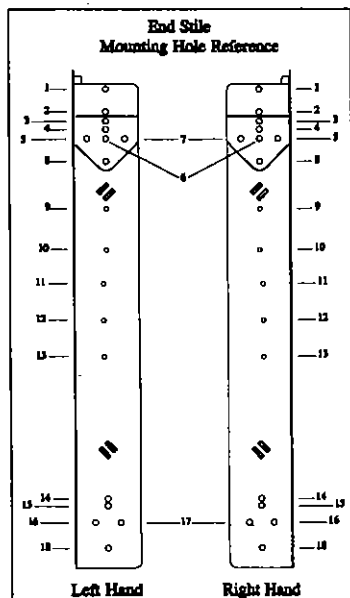
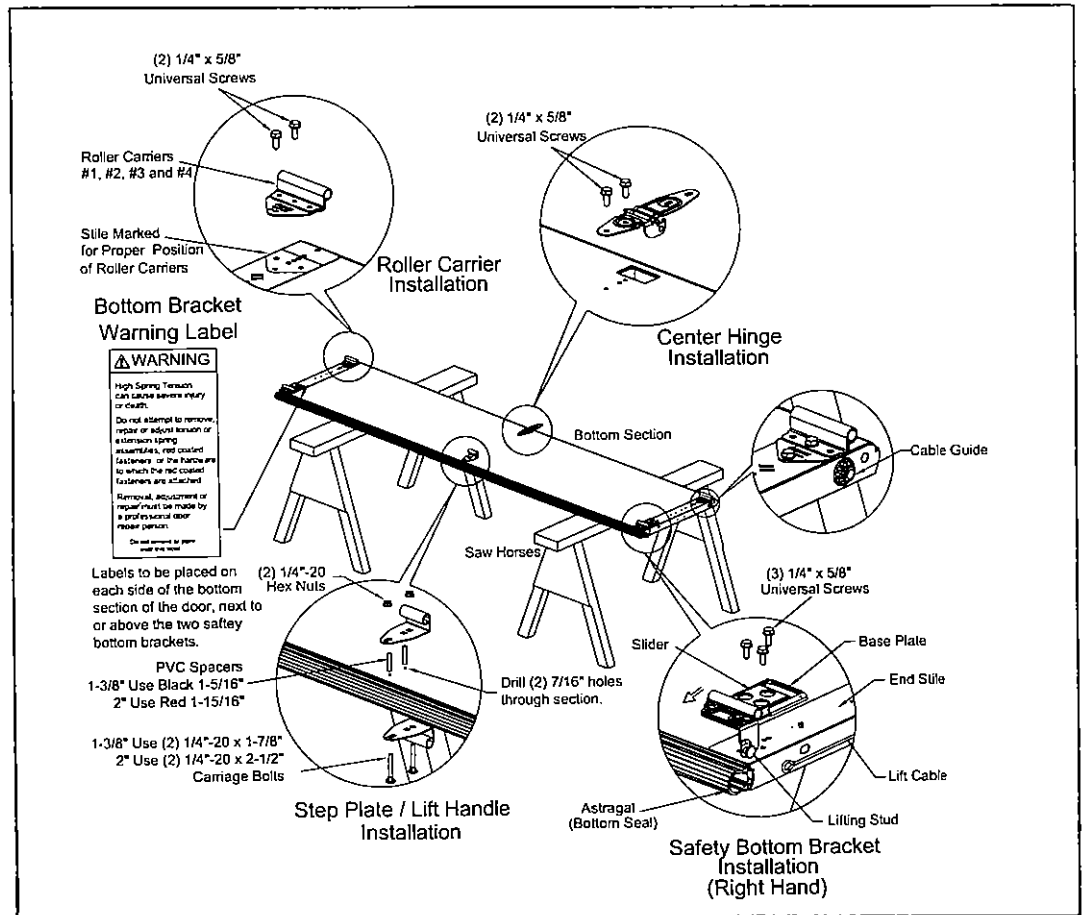
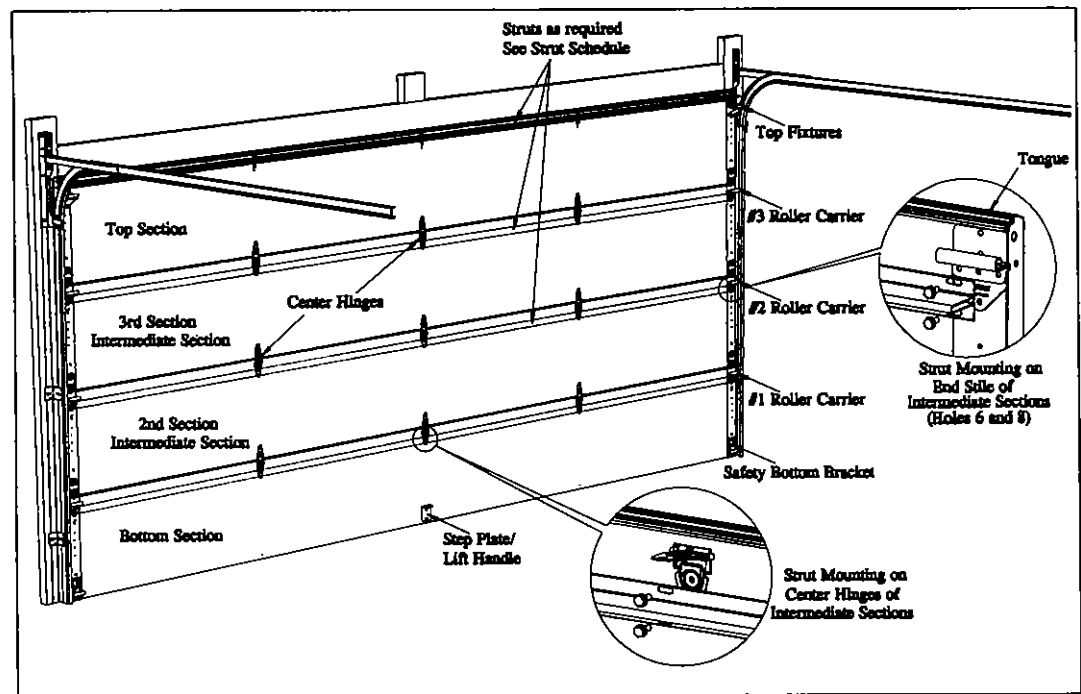

FIGURE 3
FIGURE 2
FIGURE 4
Note: Check the section height chart, (Table 2) to insure proper placement of sections. Except for bottom section all equal size sections are interchangeable. The inside of the sections have predrilled holes for most fasteners. The top of the sections have a tongue (Figure 4).
Place the bottom section face down on 2 or more sawhorses, (Figure 2). It is recommended to cover tops of saw horses with carpet or cloth to prevent the door sections from being scratched or damaged. Install astragal (bottom seal) in aluminum retainer (if not already done).
Locate safety bottom brackets, slide slider portion of bottom bracket down to expose holes in base plate. Align bottom bracket (left and right) to the bottom of the end stiles aligning holes in base plate with holes (14, 16, 17) on end stiles (Figure 3). Attach each bottom bracket with (3) 1/4" x 5/8" universal screws. Secure the lift cable by hooking the looped end of the cable over the lifting stud. If two sets of cable are supplied, use the longer cable as lift cables. Cable guides should be on each end of the bottom section (Figure 2).
Roller Carriers have numbers stamped on them for identification and their placement on the door is important (Figure 4). All roller carriers are attached to the end stiles with (2) 1/4" x 5/8" universal screws, using holes (6 and 8). The end stiles are marked to provide a footprint of the roller carrier (Figure 3).
Locate the center hinge(s), rotate and insert the hinge(s) into the hinge pocket(s) as illustrated (Figure 2). All center hinges are attached along the top edge of the sections using (2) 1/4" x 5/8" universal screws.
Note: If your door is supplied with struts, they must be attached according to (Figure 4). See strut schedule (Table 3) for location(s) of struts. All struts except on top section are to be attached on top of the roller carriers and center hinge(s).
Drill two 7/16" holes straight through section using the bottom pre-punched holes as a template located at the bottom center of the section. Install two PVC Spacers, Black for 1-3/8" thick doors or Red for 2" thick doors. Install step plate/lift handle using (2) 1/4"-20 x 1-7/8" carriage bolts (head should be on the outside) and nuts (Figure 2). If the door has a lock, the step plate/lift handle should be positioned underneath the lock handle location.
Place the second (lock) section face down on saw horses. Note: If the door will be installed with a lock, go to Step 4a on supplemental "Classic Lock" Installation Instructions sheet. Install #2 roller carrier as described in Step 2b (Figure 2). Install center hinge as described in Step 2c (Figure 2). Go to Step 5.
Note: If your door is supplied with struts, they must be attached according to (Figure 4). See strut schedule (Table 3) for location(s) of strut. All struts except on top section are to be attached on top of the roller carriers and center hinge(s).
Place the third section face down on saw horses. Install #3 roller carrier as described in Step 2b (Figure 2). Install center hinge as described in Step 2c (Figure 2).